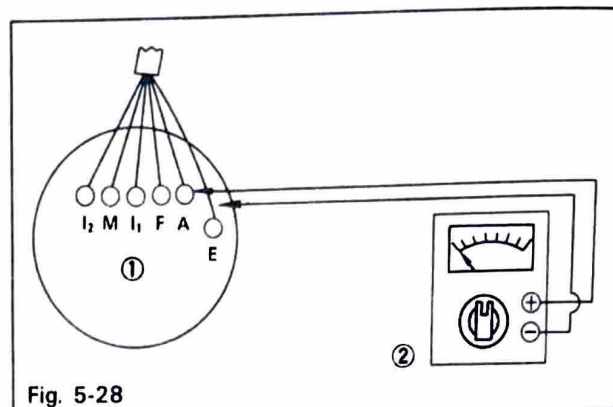

Fig. 5-28
- 4) After the adjustment, the generated voltage shows slight fluctuations as illustrated. (Fig. 5-28)